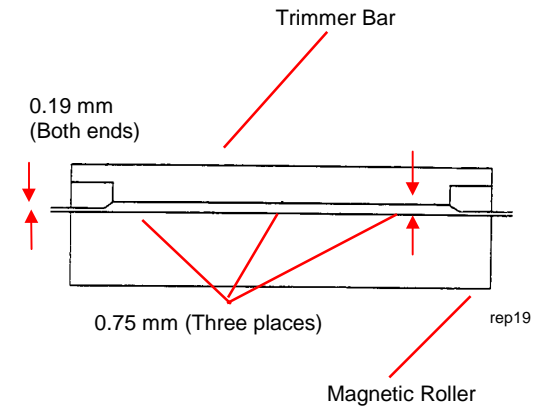

Figure 2. Reinstalling the Trimmer Bar
1. (Figure 2): Position the Trimmer Bar, starting at the center and working to the outside edges.